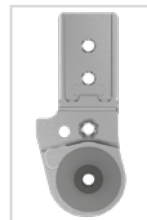

fig. 8
- 5 Place the sliding washer onto the joint's upper part (fig. 8).